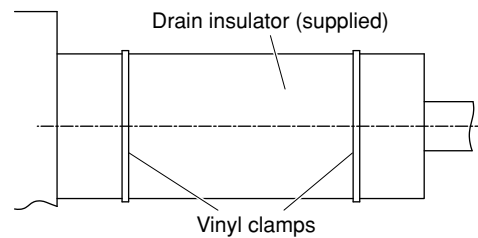

Fig. 3-38
- (2) After checking the drainage, wrap the supplied packing and drain pipe insulator around the pipe. (Fig. 3-38)